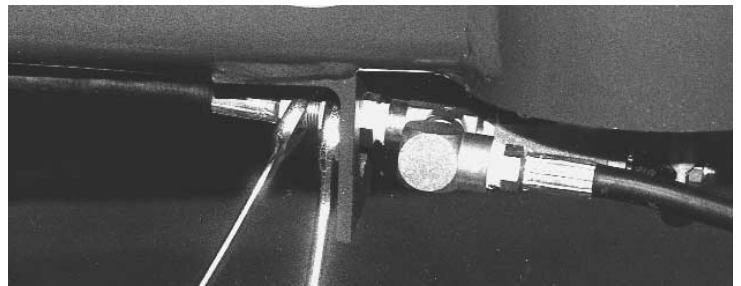

Figure 8
6. Attach tower's hydraulic hose to street tee (see Figure 8) and secure with appropriate size wrenches.